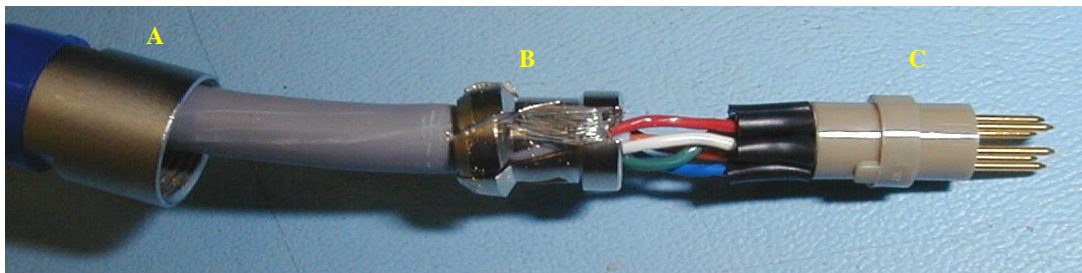

Figure 15
- 7.5. Place the Strain Relief (10542-5459-01) and pieces A & B of the LEMO Connector (10508-0006-01) over the cable as shown in Figure 15.
- 7.8. Fold the braid as shown in Figure 15 so that it is trapped underneath piece B and fold the braid back up through the slot. Cut off excess braid.